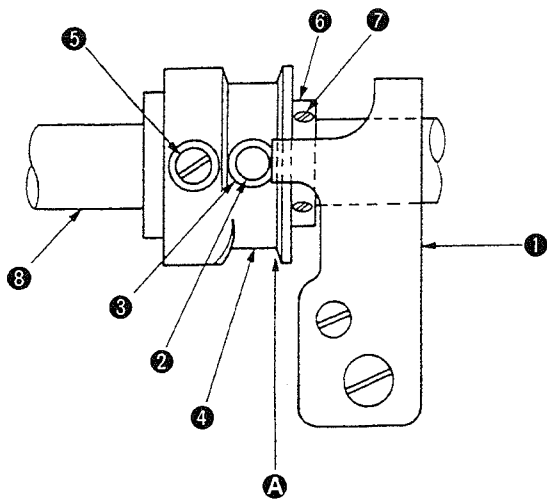

Fig. 58
- o When the cam roller shaft comes in contact with the follower stopper plate (Figs. 58 and 59 on page 36), a clearance of 0.2 to 0.3 mm should be provided between the follower guide plate and the cam follower (asm.).
<p>1. Move follower guide plate ② to adjust so that a 0.2 to 0.3 mm clearance is obtained between follower guide plate ② and cam follower (asm.) ① when the cam roller shaft comes in contact with the follower stopper plate (Figs. 58 and 59 on page 36). Then, fix the follower guide plate by tightening screw ③.</p> <p>(Caution) 1. Confirm, by pressing cam follower (asm.) ① in the direction of the arrow, that the cam roller shaft comes in contact with the follower stopper plate.</p>	<p>If the clearance provided between the follower guide plate and the cam follower (asm.) is larger than the specified value:</p> <ul style="list-style-type: none"> o A play at the moving knife in the rocker direction will be larger. <p>If the clearance provided between the follower guide plate and the cam follower (asm.) is smaller than the specified value:</p> <ul style="list-style-type: none"> o The follower will fail to come off the thread trimmer cam causing the thread trimmer to actuate at the start of sewing. In this case, the related components will break or the sewing machine will be locked.